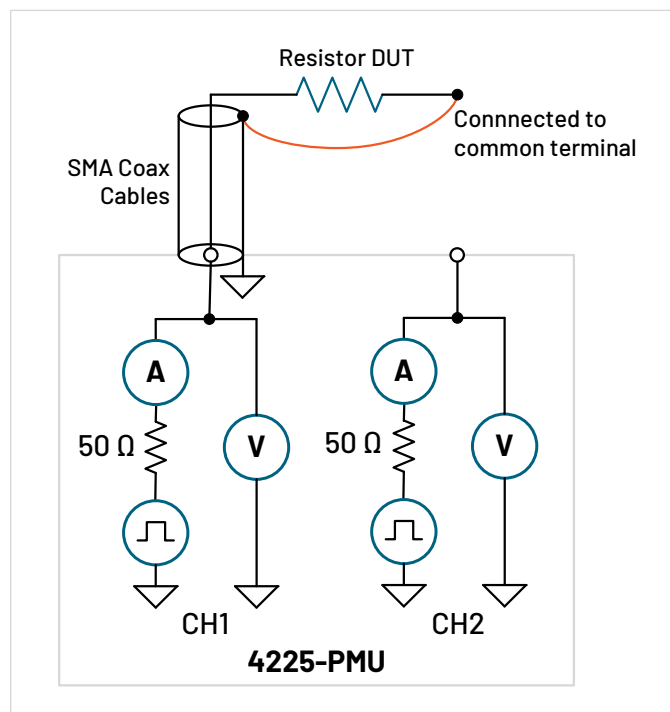

Figure 2. Connecting PMU CH1 to a resistor.
The following pulse IV programming example generates an IV sweep on a 1 kohm resistor. As illustrated in **Figure 2**, one end of the resistor is connected to the center conductor of the coax cable (HI) of PMU CH1 and the other side of the resistor is connected to PMU common (LO), or the outside shield of the coax cable.